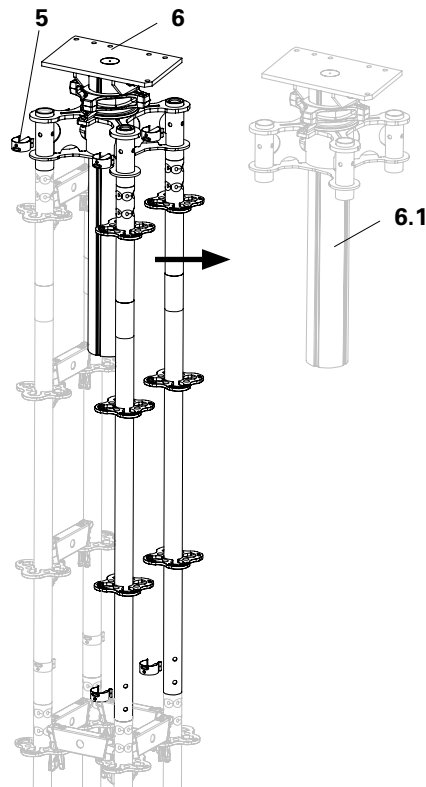

Fig. A4.02a
5. Lift Head Spindle and remove Spindle Tube (6.1) from the side between the rosettes of the turned Standards. (Fig. A4.02a + A4.02b)